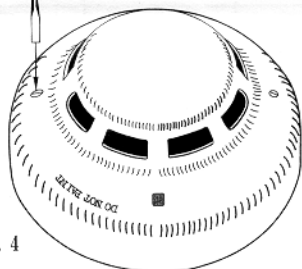

Fig. 4
- 2) To remove the sensor from its base, take a small diameter screw driver and insert it into the large hole on the outer rim of the sensor (see Fig. 4). Use caution when pushing the base security locking tab down. Only use enough force to remove the sensor. While pushing the tab down rotate the sensor counter clockwise enough to clear the base security locking tab. Once this is accomplished the sensor can be completely removed.